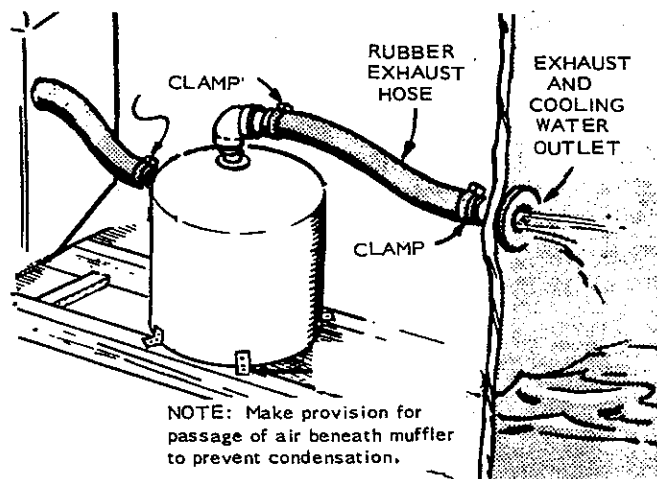

FIGURE 13-14. ABOVE-WATER-LINE INSTALLATION
3. Connect the exhaust line to the muffler outlet and to the upper elbow. Use a conventional automobile tail pipe hanger bracket to hang the upper elbow. Rigid pipe may be used in place of flexible hose for certain applications. See Figures 13-14 and 13-15.